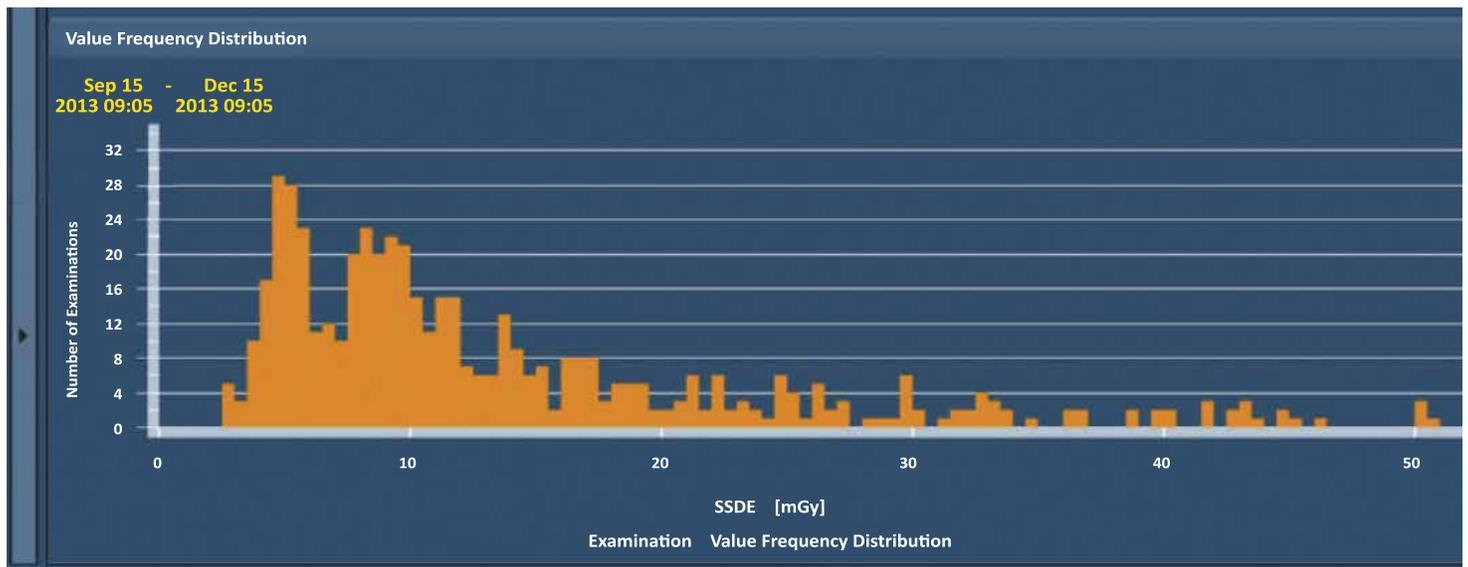

Figure 3: Histogram of PE studies with SSDE plotted.
Dr. Mark Supanich, also a medical physicist at an academic medical center and presenter at the user meeting, described how Radimetrics platform played a key role in ending radiologists’ complaints about grainy Pulmonary Embolism (PE) studies. To assist his team in discovering the source reason behind this image quality issue, Supanich built a histogram dashboard within Radimetrics comprised of PE studies from a broad date range, with SSDE plotted. (See Figure 3)